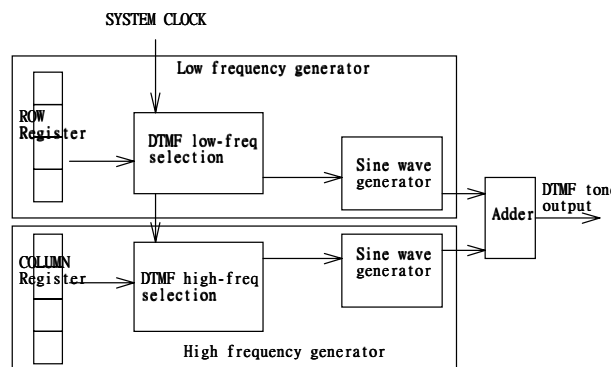

Fig15. DTMF Block Diagram
* Bit 2~4 (Bias1~Bias3) Control bits used to choose LCD operation voltage . The circuit can refer ti figure15.